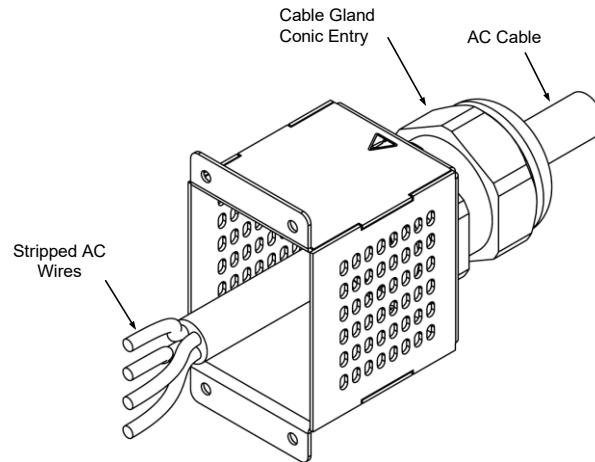

Figure 7-10: Insertion of the AC Cable through the Cable Gland and Strain Relief Bracket Assembly
6. Insert the AC cable through the cable gland and the strain relief bracket assembly, as shown in **Figure 7-10**.